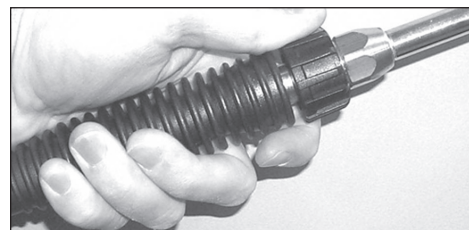

Figure 6 - Attach lance to gun
6. Attach the lance with nozzle to the gun (see Figure 6).